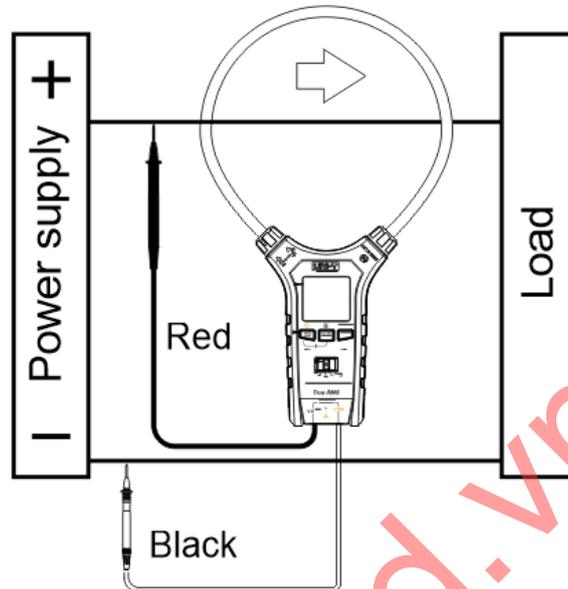

Figure 6
4. Power measurement (Figure 6)